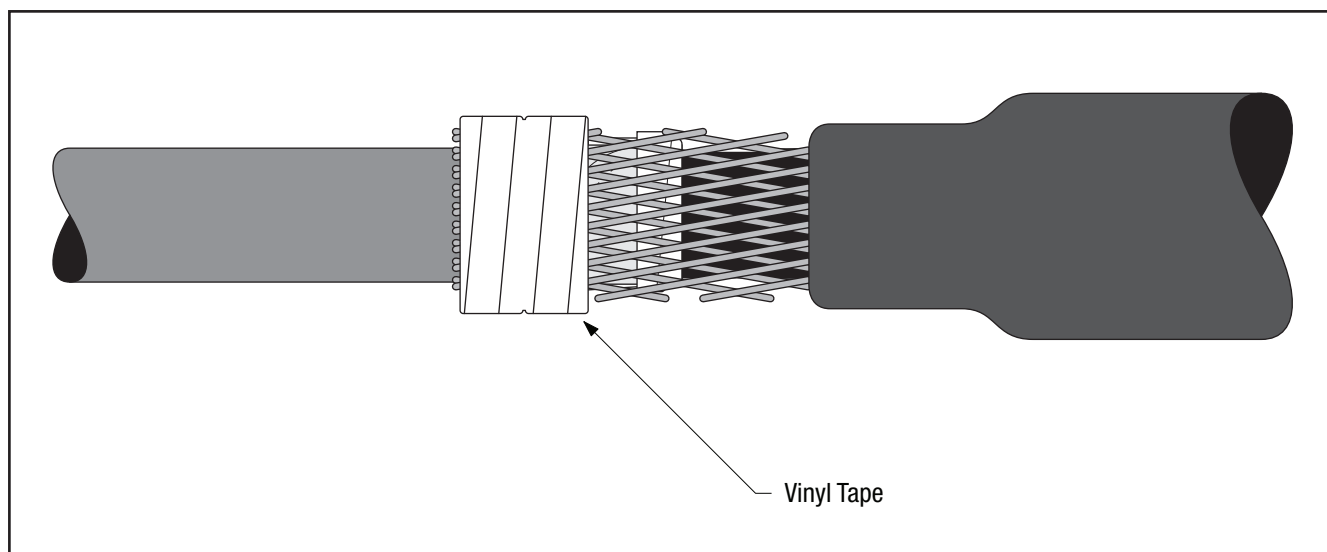

Figure 15
- 5.4 Wrap two half-lapped layers of vinyl tape over all constant force springs (*Figure 15*).